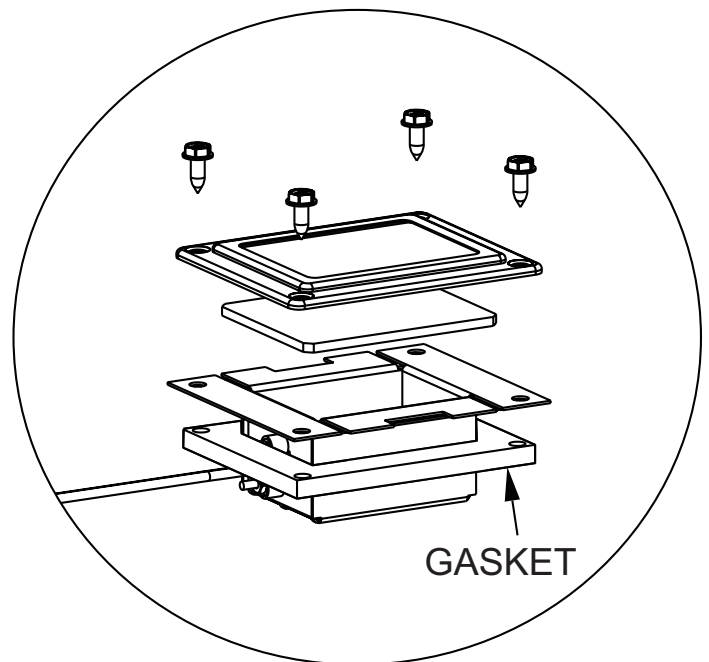

Figure 4
4. Install the two Accent Light Assemblies as shown in **Figures 4 and 5.** The left assembly's wires should be left, and the right assembly's wires should point right.